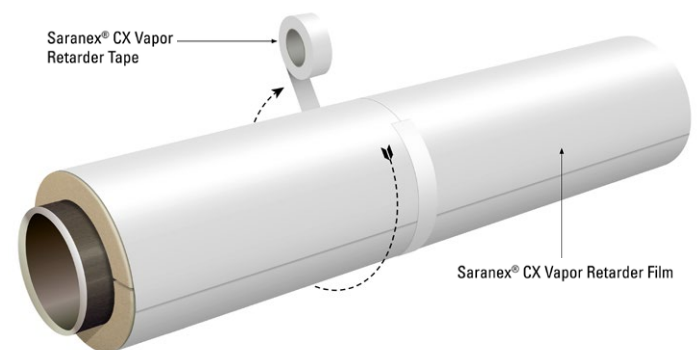

Figure 3 - Factory Applied Saranex CX Vapor Retarder Film and Saranex CX Vapor Retarder Tape
- 4.1.1.9 Butt joints in Saranex CX Vapor Retarder Film shall be sealed using 3" wide Saranex CX Vapor Retarder Tape. Tape shall be wrapped around the butt joint a minimum of 1¼ circumferences (1¼ wraps). When operating temperature is $\leq 32^\circ\text{F}$ or when a permeance of 0.02 perms or lower is required, butt joints shall be wrapped with either two layers of Saranex 520 CX Vapor Retarder Tape or a single layer of Saranex 560 CX Tape. When operating temperature is $> 32^\circ\text{F}$, butt joints shall be wrapped with a single layer of Saranex 520 CX Tape. Figure 3 shows the installation details.